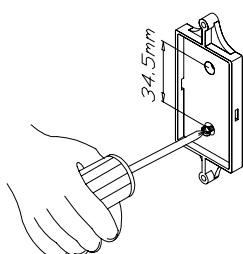

fig 4
- ② Installation for wall cap: Find a proper position on wall, make 2 holes/with distance 34.5mm, dia.: 6mm, Depth: 25mm. Then put “plastic screw sock” (as fig 3) into these 2 holes and put “wall cap” on wall (As fig 4)